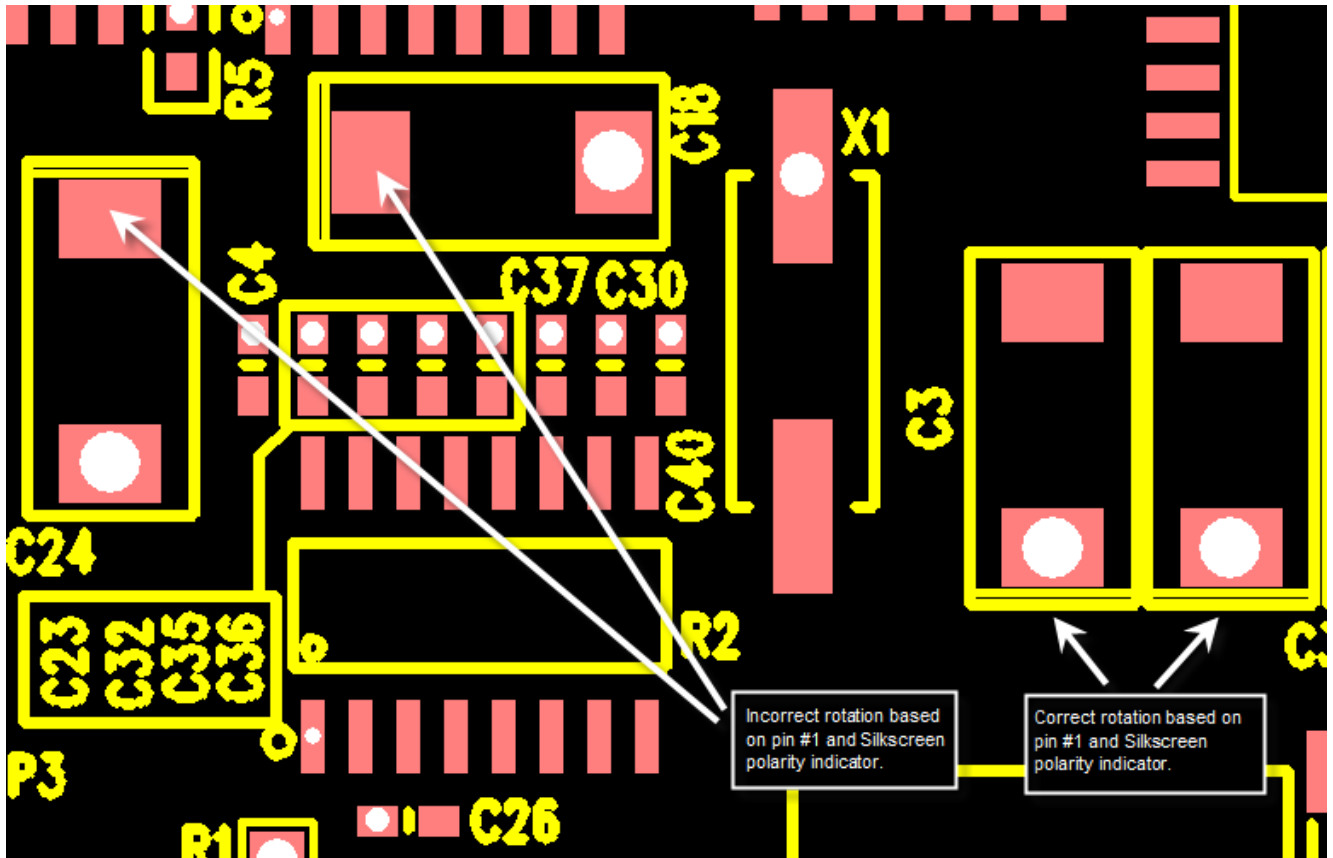

Figure 37
6. To change part rotations, select the parts that need re-assignment, then go to Tools > Query (hot key "q") and manually change the rotation assignment listed in part properties tab – See Figure 37: